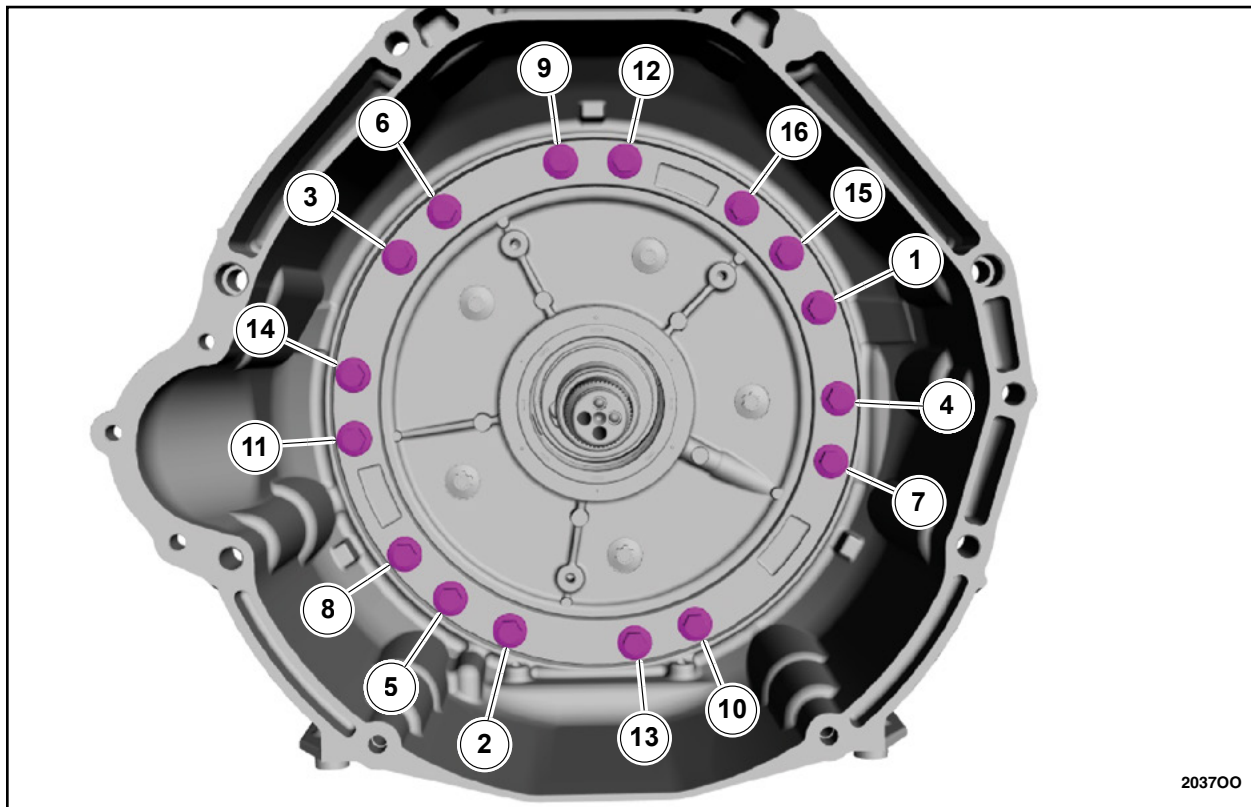

FIGURE 33
36. Tighten the bolts in the sequence shown. See Figure 33.